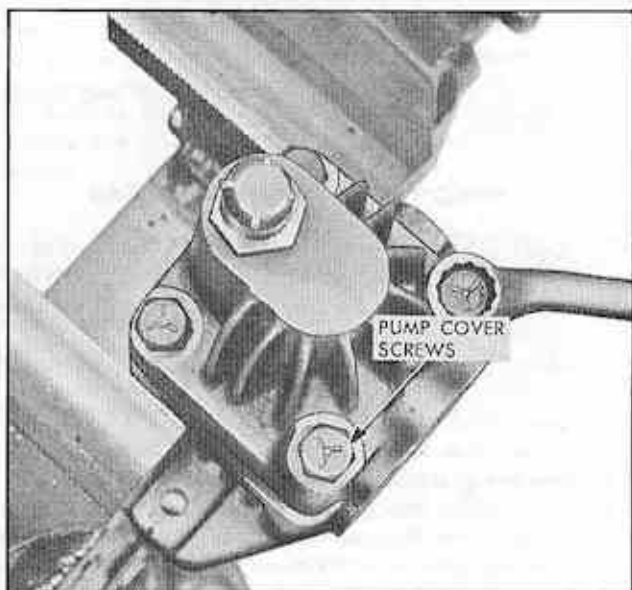

Fig. 95 Removing Pump Cover Screws
6. Remove four pump cover to pump body attaching screws (Fig. 95). NOTE: Do not clamp on front hub of pump as this may brinell the bearing housed therein.